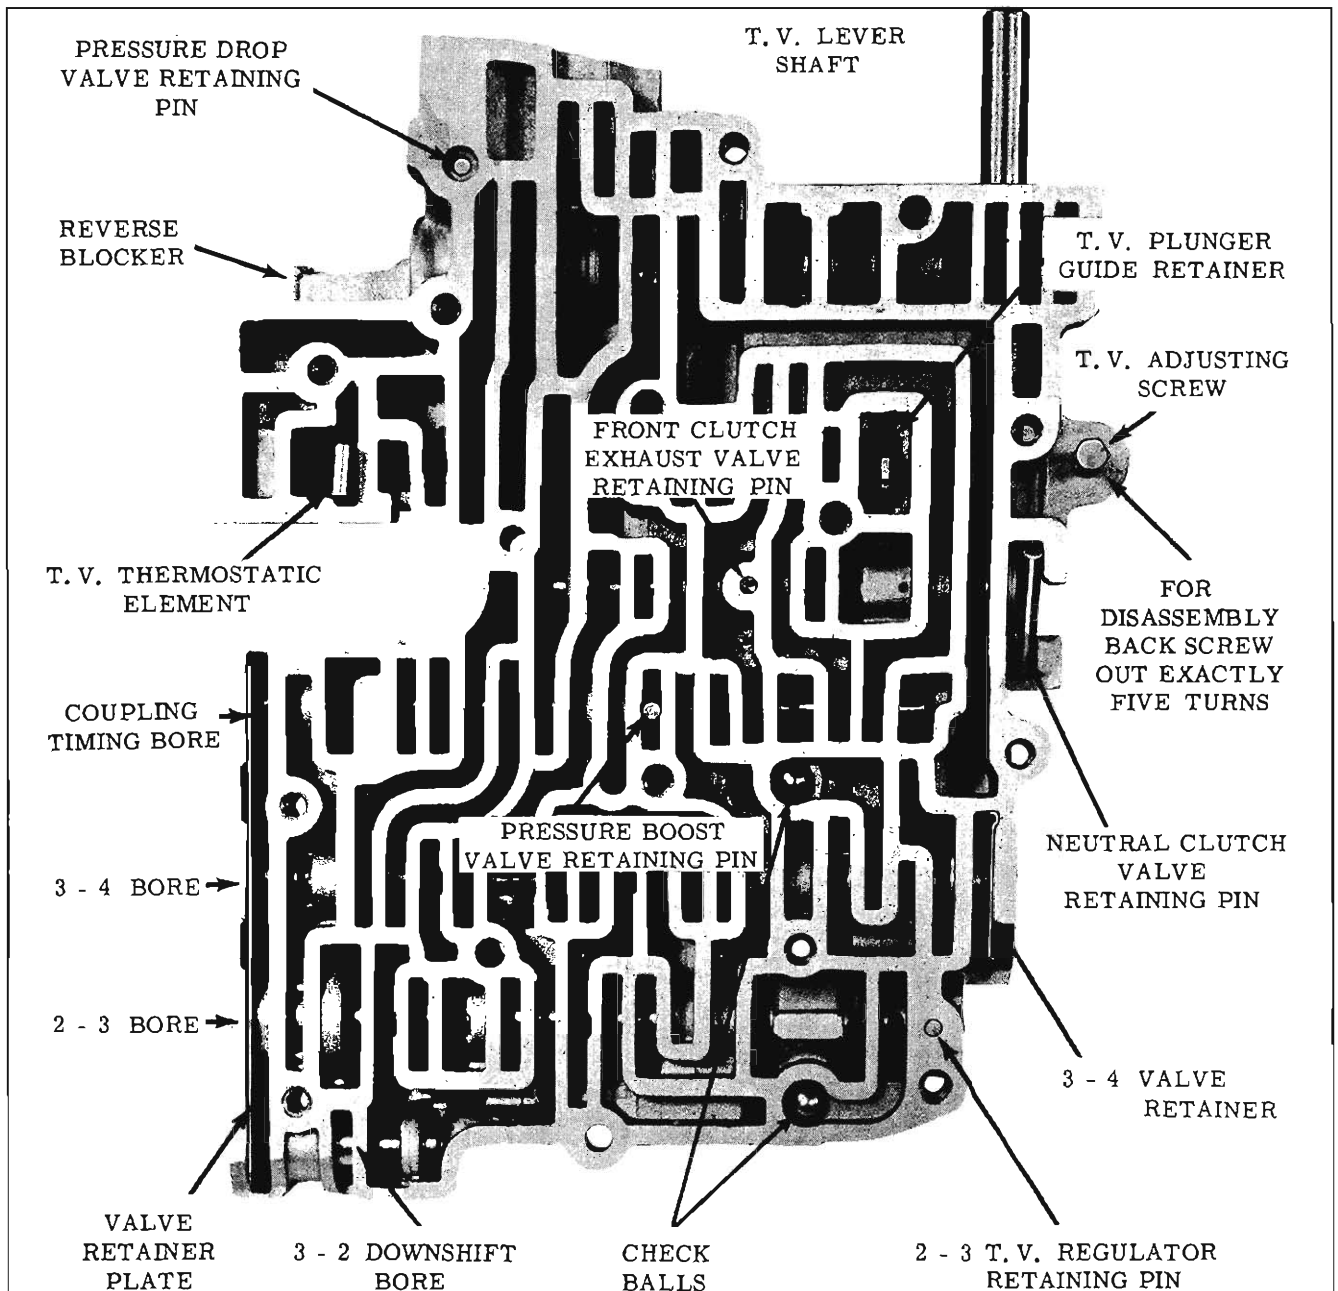

Fig. 6-87 Valve Body
(Fig. 6-87)**
ASSEMBLY OF 3 TO 4 BOOST BODY (Fig. 6-87)
6. Remove two check balls and the T.V. thermostatic element. (Fig. 6-87)
7. Remove T.V. plunger guide retainer located in cored passage near T.V. adjusting screw. Position control valve assembly with the cored side up and the T.V. lever positioned on the top right hand side. (Fig. 6-87)
27. Loosen T.V. adjustment screw EXACTLY five TURNS. (Fig. 6-87)